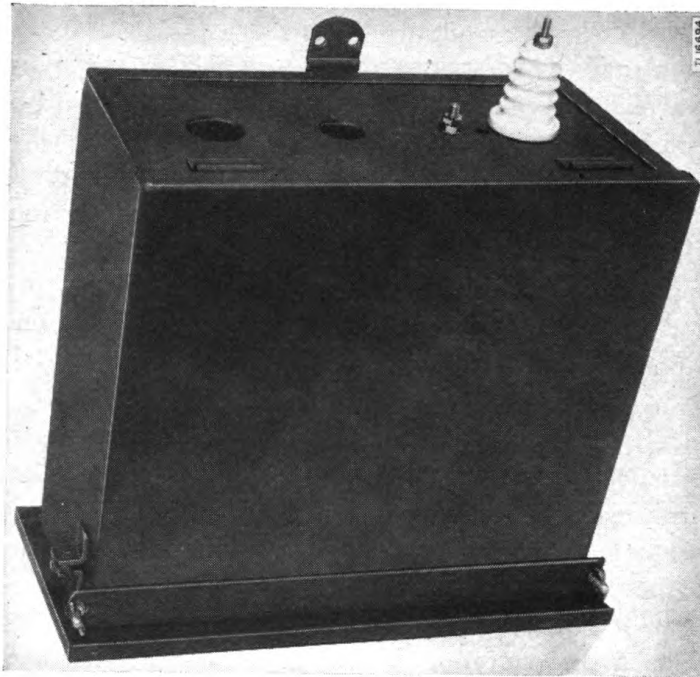
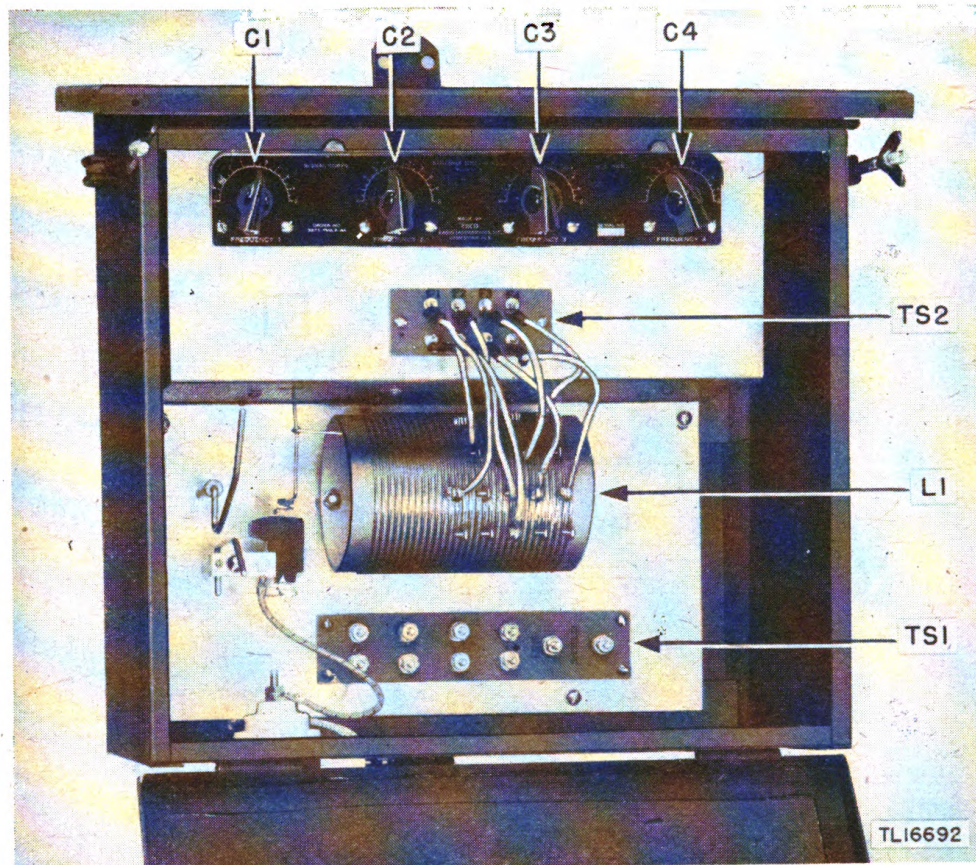

Figure 14. Antenna Tuning Unit BC-619-A.
Figure 15. Antenna Tuning Unit BC-619-A—cover open.
b. DISASSEMBLY. (1) Remove external connections from the feed-through insulator and the ground stud on the bottom of the housing (fig. 14).
(2) Loosen the two wingnuts to unlatch front cover, and allow the cover to swing open on its hinges.
(3) Disconnect external leads from terminal strip TS1 (fig. 15).
(4) Disconnect lead from the terminal on top of the feed-through insulator (fig. 15).
(5) Remove the six bolts that secure the tuning unit to the housing, and remove the tuning unit.
(6) Remove the lacing from the cables on the back of the tuning unit, and spread the wires apart to aid in moisture removal and varnishing.
Antenna Tuning Unit BC-619-A (figs. 14, 15, and 16) is designed for use with Radio Set SCR-281-(*) to resonate and help load a single vertical antenna to four preselected frequencies between 1,700 and 2,750 kc.
d. Insert one end of an amphenol coaxial cable through one of the two knock-out holes in the bottom of the tuning unit, and terminate it at the main terminal strip on the tuning unit. Connect the center conductor of the coaxial cable to the LINE terminal of terminal strip TS1 and the outer conductor or shield to the SHIELD terminal (figs. 15, 17, and 18).